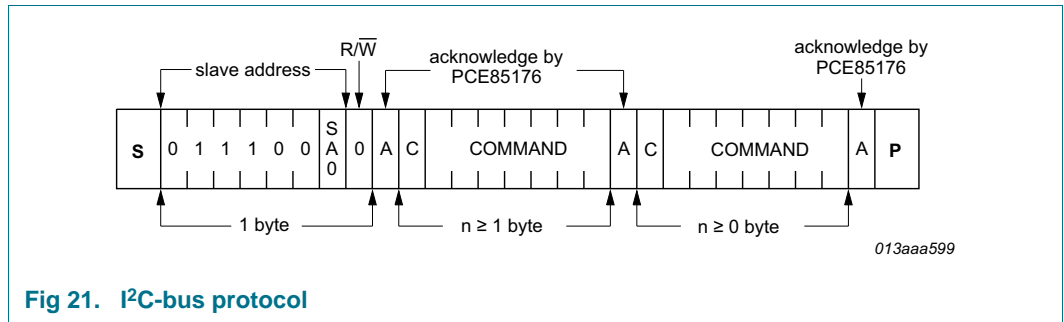

Fig 21. I2C-bus protocol
The I2C-bus protocol is shown in Figure 21. The sequence is initiated with a START condition (S) from the I2C-bus master which is followed by one of two possible PCE85176AUG slave addresses available.